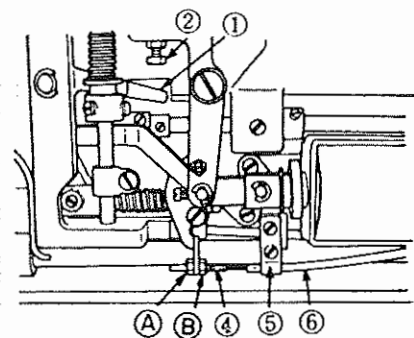
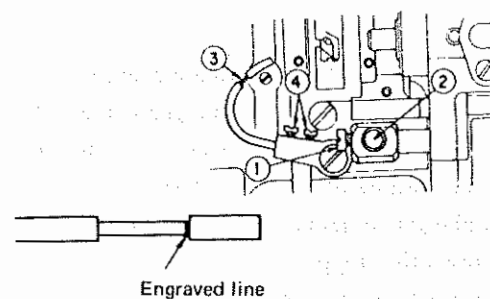
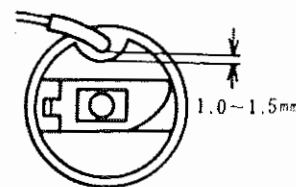

Fig. 42
Fig. 50
Fig. 51
Check whether the tension disc No. 2 floats 0.5 to 1 mm when thread take-up picker ③ in Fig. 42 is pressed to the right with the thread take-up lever located slightly below its highest position and the presser foot lifted.
2) How to adjust the floating amount (See Fig. 42)
① To increase the floating amount, loosen nut ②, and tighten nut ①.
② To decrease the floating amount, loosen nut ①, and tighten nut ②.
- 1) Loosen screw ① (Fig. 50), and remove pin ② (Fig. 50) for knife forked base.
If thread take-up picker ③ (Fig. 50) enters the bobbin case too deeply at the time of thread trimming, the bobbin does not turn, and the bobbin thread is cut too short, causing thread cast-off at the start of a seam line. On the contrary, if the entrance of the thread take-up picker into the bobbin case is not enough, the needle thread slips off the tip of the thread take-up picker at the time of thread trimming, and as a result, the thread remaining on the needle after trimming becomes too short, causing thread cast-off.
With thread trimmer lever ① (Fig. 42) pressed against stopper ② (Fig. 42), make adjustment so that the bobbin thread can be pulled out smoothly.
(Fig. 51)
After loosening screws ④ (Fig. 50), perform adjustment so that the tip of the thread take-up picker (bobbin winder trip latch) is positioned as shown in Fig. 51. To adjust the entrance of the thread take-up picker into the bobbin case, move stopper ② (Fig. 42).